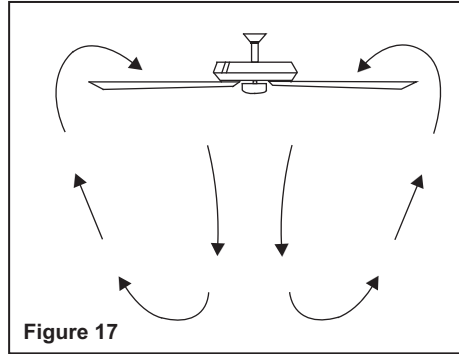

Figure 17
**Warm weather - (Forward)** A downward airflow creates a cooling effect as shown in Fig. 17. This allows you to set your air conditioner on a warmer setting without affecting your comfort.